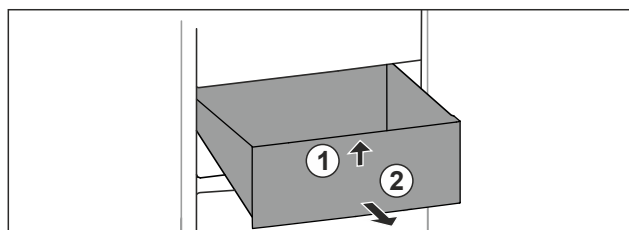

Fig. 52
- Lift up drawer at the front. Fig. 52 (1)
- Remove drawer to the front. Fig. 52 (2)